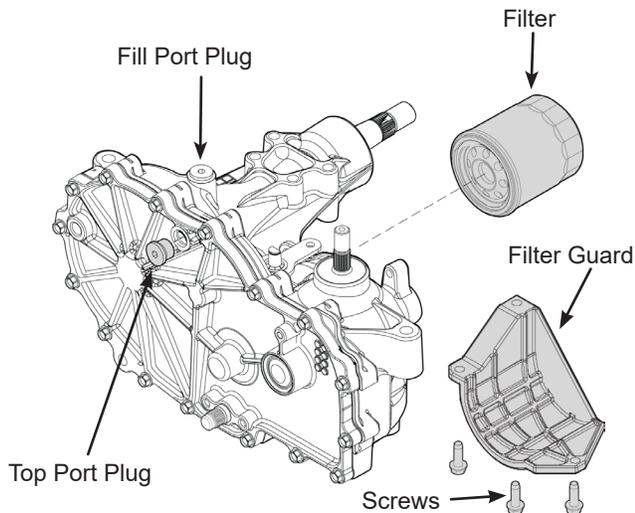
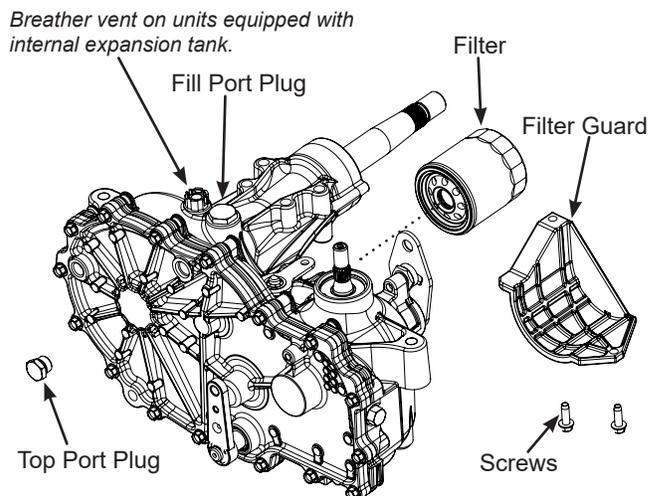

Figure 5, Unit Without Internal Expansion Tank
Figure 6, Unit With Internal Expansion Tank
Certain situations may require additional fluid to be added or even replaced. Refer to page 10 and figure 5 for the proper fill port location.
1. Remove the three 1/4" filter guard screws and filter guard as shown in figure 5 or the two 1/4" filter guard screws and filter guard as shown in figure 6. Clean any loose debris from around the perimeter of the filter. See figures 5 and 6.
8. Remove the top port plug (figure 6) from the left side and right side transaxles prior to filling with oil. This will allow the transaxles to vent during oil fill.
Note: For units that do not have an external expansion tank remove the fill port plug on the top of the housing (figure 6).
10. Fill with 20W50 motor oil until oil just appears at the bottom of each transaxle's top port (approximately 2 qts. per transaxle, 4 qts. total). Install the top port plug into each transaxle as the oil level reaches this port. See Figure 6.
Note: For units that do not have an external expansion tank replace the fill port plug on the top of the housing (figure 6), torque to 120 in. lbs. and proceed to the purge procedure on page 12.